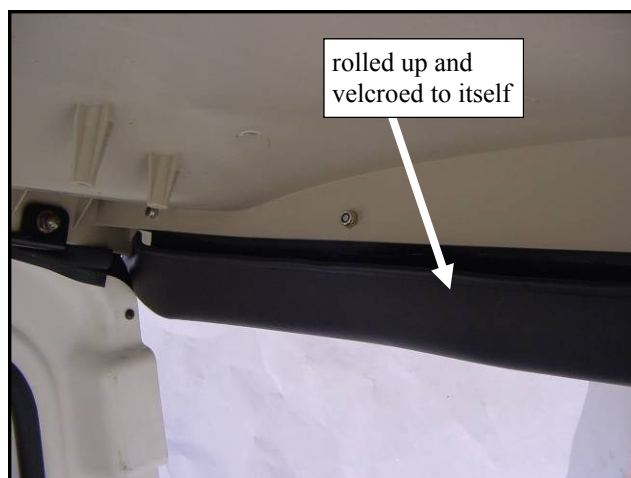

Fig. 3.9 (view from rear)
3.9 Per fig. 3.9, if the windshield is not used or is in the folded down open position, the front draft panel can be rolled up and stored away via the mating velcro that is sewn on. This piece can be rolled up for general ventilation purposes also.